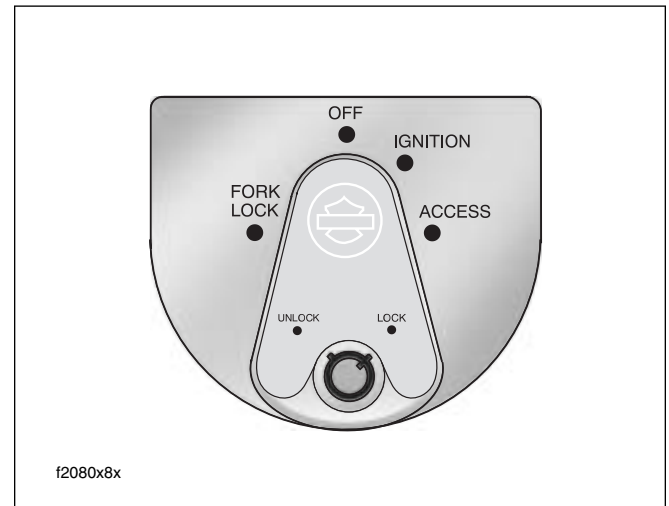

Figure 2-2. Ignition Switch (FLHX, FLHT/C/U, FLTR)
- See Figure 2-2. “Key ON” means that the ignition key is turned to ON and the engine stop switch is set to RUN (although the engine is **not** running).
- See Figure 2-2. "Key ON" means that the ignition key is turned to ON and the engine stop switch is set to RUN (although the engine is **not** running).